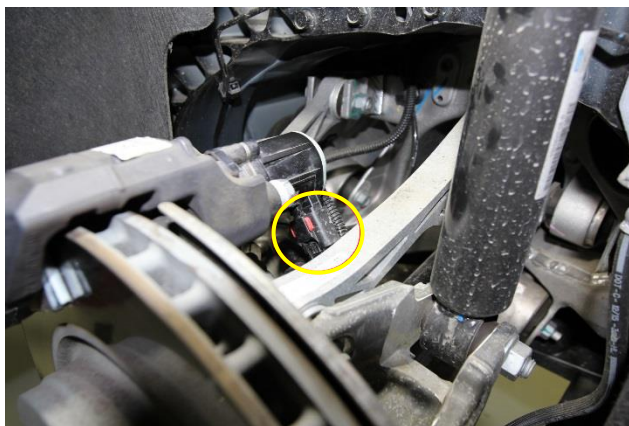

Figure 16
24. Release the red retaining tab and disconnect the electrical harness from the LH parking brake caliper connector (Figure 16).